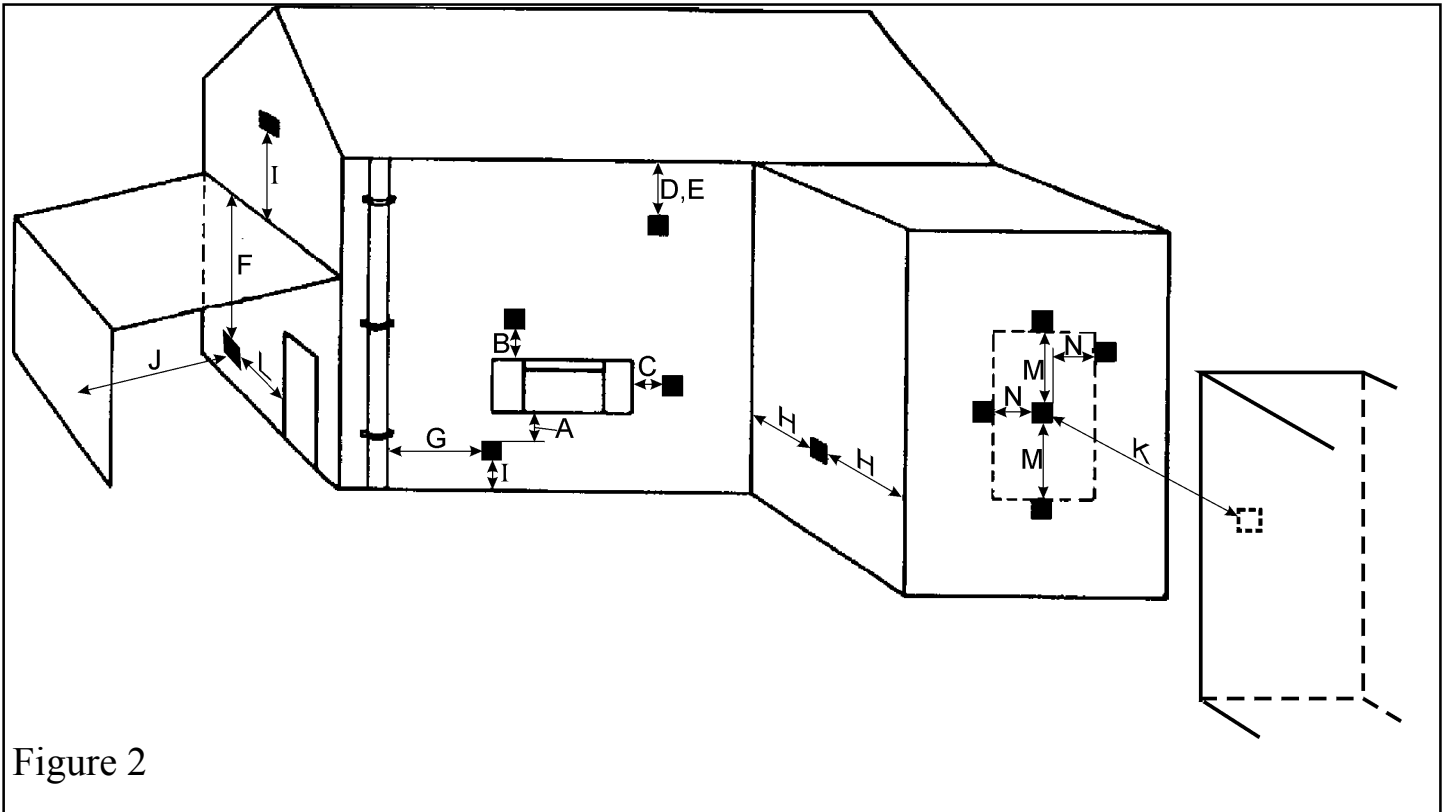

Figure 2
2.15 Minimum allowable distances from the terminal are shown in table 1 and figures 2 and 3.